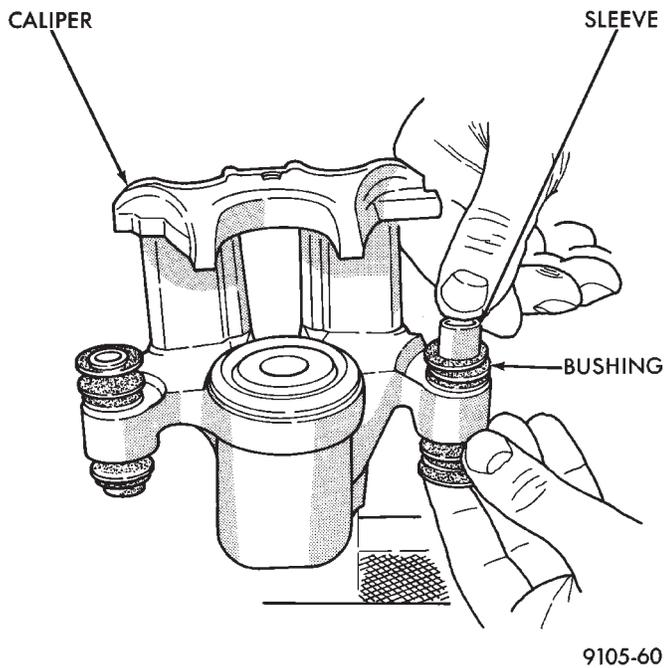

Fig. 12 Installing Caliper Sleeves
(1) Install the sleeve into one end of the bushing until the seal area of the bushing is past the seal groove in the sleeve (Fig. 12).